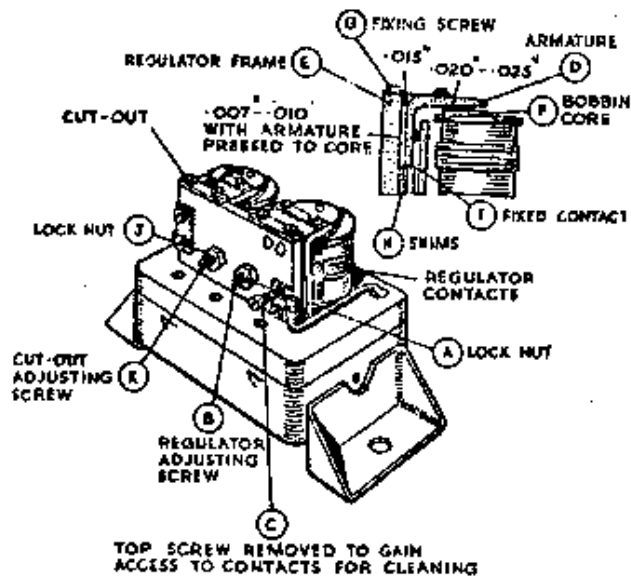

Fig. 69. Regulator adjustment and setting.
If the voltage at which the reading becomes steady is outside these limits, the regulator must be adjusted. Shut off the engine, release the locknut (A, Fig. 69) on the regulator adjusting screw (B) and turn the screw in a clockwise direction to raise the setting, or in an anti-clockwise direction to lower the setting. Turn the screw a fraction of a turn at a time and then tighten the locknut. When adjusting, do not run the engine up to more than half-throttle, as while the dynamo is an open circuit, it will build up to a high voltage if run at a high speed and so a false voltmeter reading would be obtained.
Insert a .015" feeler gauge between the back of the armature (D, Fig. 69) and the regulator frame (E). Insert a .020" - .025" feeler gauge between the top of
(c) To check the voltage at which the cut-out operates, with the engine still running, the voltmeter should be connected between the "D" terminal and earth. Slacken the locknut (J, Fig. 69) on the cut-out adjustment screw (K) and turn the screw in an anti-clockwise direction until the cut-out contacts are seen to close. Check the voltage at which the cut-out operates and if necessary adjust by turning the screw in a clockwise direction to raise the setting or anti-clockwise direction to lower it. Set the cut-out so that the contacts close at 6.2-6.6 volts. Tighten the locknut after making the adjustment.